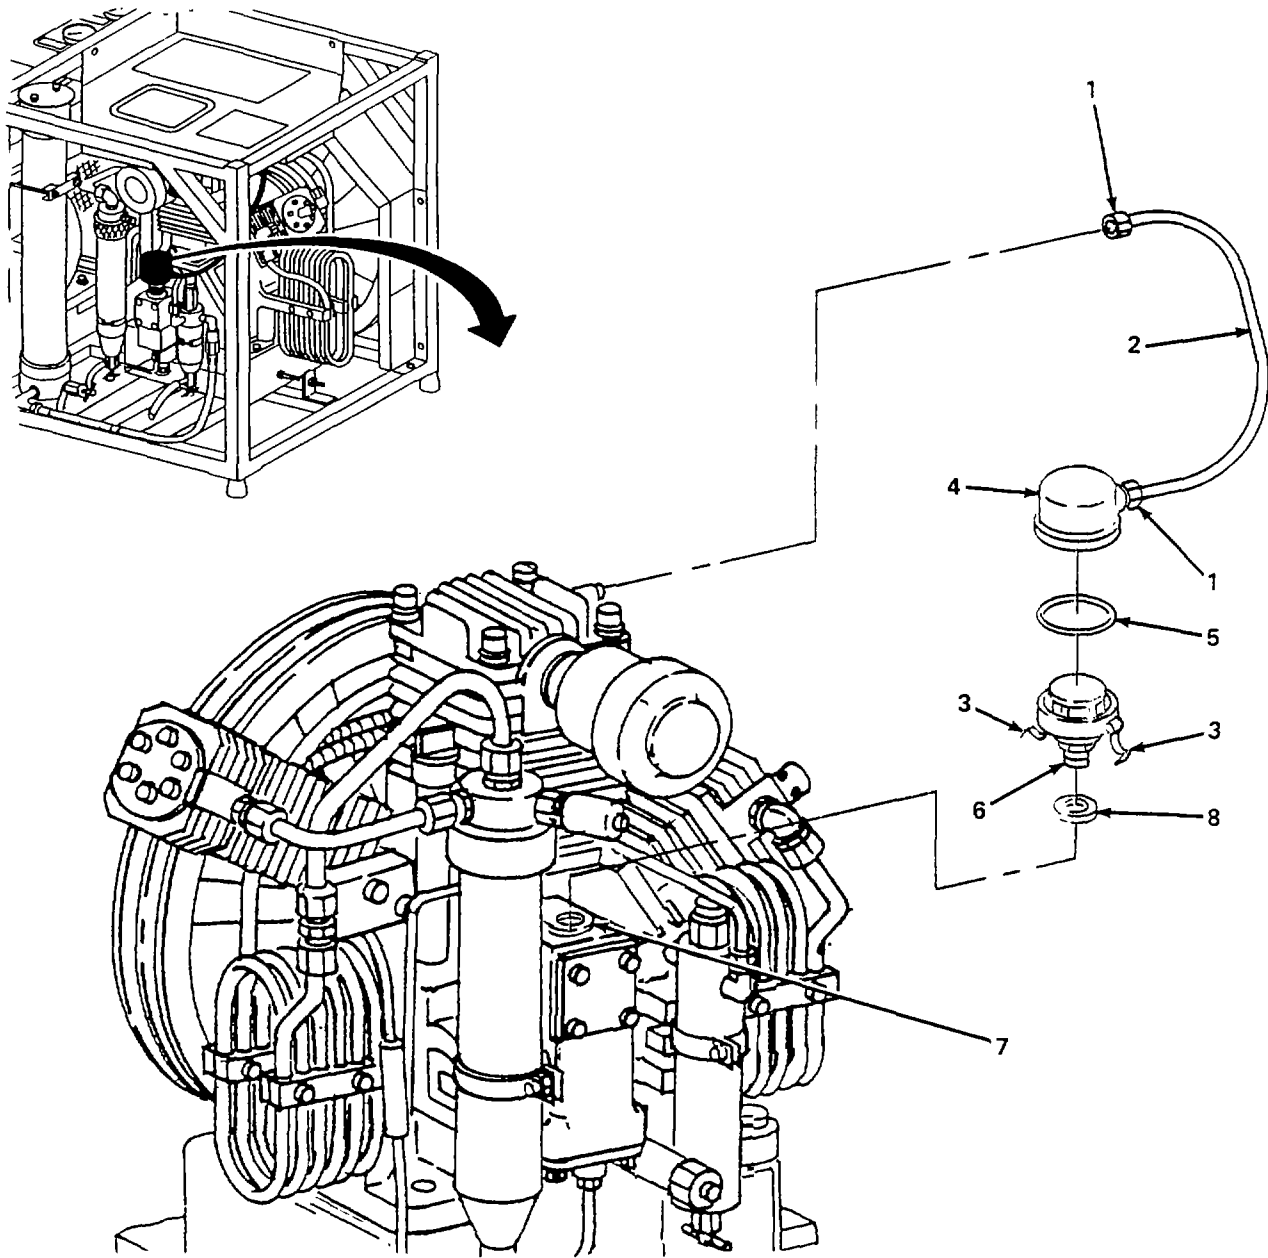

Figure 4-14. Crankcase Breather Assembly, Replace.
**4-22. Crankcase Breather Assembly (Cont).****b. Replace.** (figure 4-14)
- (1) Loosen two connector nuts (1) and remove line (2).
- (2) Unsnap two clips (3) and remove cover (4) and preformed packing (5). Discard preformed packing (5). i\_
- (3) Ensure area between base (6) and crankcase (7) is clean and all dirt and debris is removed.
- (4) Remove base (6) and gasket (8).
- (5) Inspect line (2) and replace if cracked or punctured.
- (6) Install new base (6) and gasket (8).
- (7) Install new preformed packing (5) and cover (4) and secure with two clips (3).
- (8) Install line (2) and tighten two connector nuts (1).